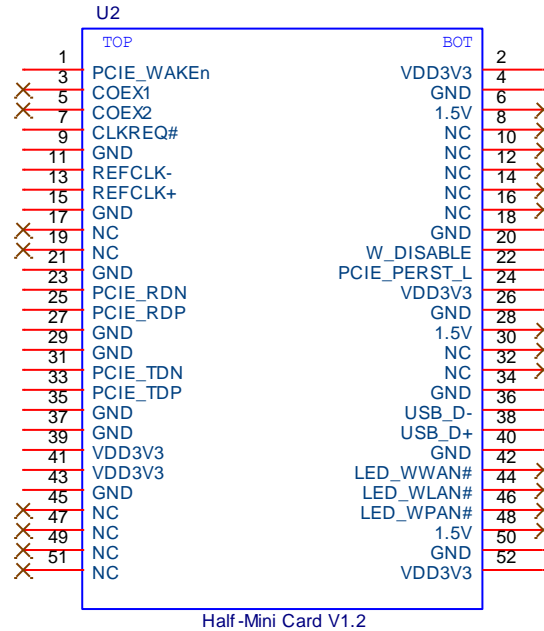

Figure3. WiFi verification connection interface to Host PCIe
- ❖ Refer to Figure3 PCIe pin definition connects the Edge finger of AP6356SDPB_I carrier board to Host PCIe control interface.
- ❖ Refer to Figure3 USB pin definition connects the Edge finger of AP6356SDPB_I carrier board to Host USB control interface.